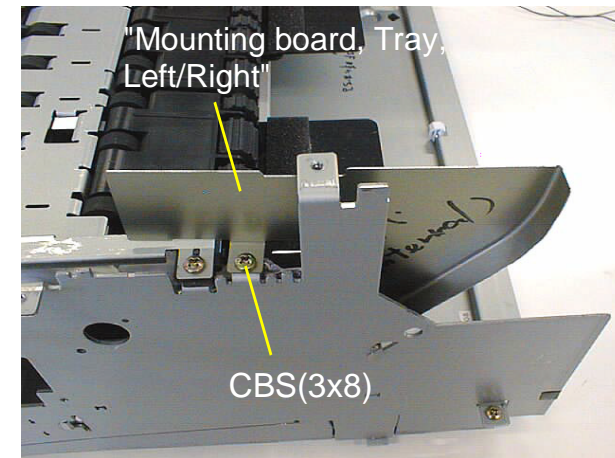

Figure 4-53. Mounting Board Removal
5. Remove each one CBS screw(3x8) fixing "Mounting board, Tray, Left" and "Mounting board, Tray, Right" respectively and remove both left and right mounting boards. (Refer to Figure4-53)